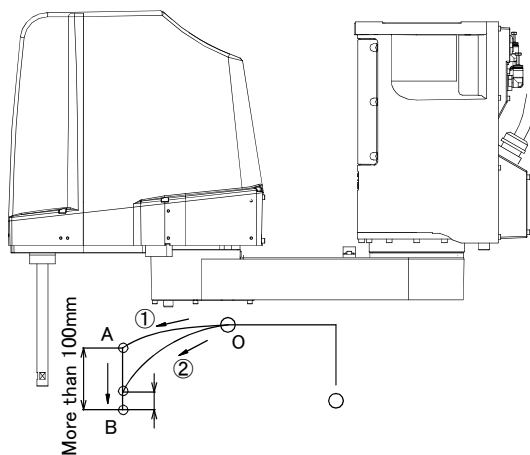

Fig.2-11 : Recommended path when positioning at the bottom edge of the Z axis
- 3) When positioning the work near the bottom edge of the Z axis, if no effectiveness is achieved in step "2" above, perform operation ① (robot path: O → A → C). In the case of operation ② (robot path: O → B → C), residual vibration may occur. (Refer to Fig. 2-11.)